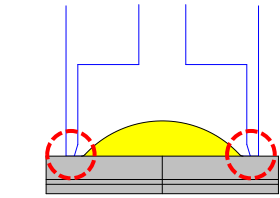

Figure 4. Cross-sectional view of a nozzle when transporting a NICHIA 149 Series LED to a PCB
- As shown in Figure 4, the nozzle tip should only touch the flat corners of the LED's top surface to hold the LEDs. Ensure that it does not come in contact with the lens. The LEDs use a silicone resin for the lens and internal pre-coating resin; the silicone resin is soft. If pressure is applied to the lens, it may cause the lens to be damaged, chipped and/or delaminated. If the lens is damaged, chipped, delaminated and/or deformed, it may cause the internal connection to fail causing a catastrophic failure (i.e. the LED not to illuminate) and/or reliability issues (e.g. the LED to corrode and/or to become dimmer, the color/directivity to change, etc.) Ensure that no amount of pressure is applied to the lens.